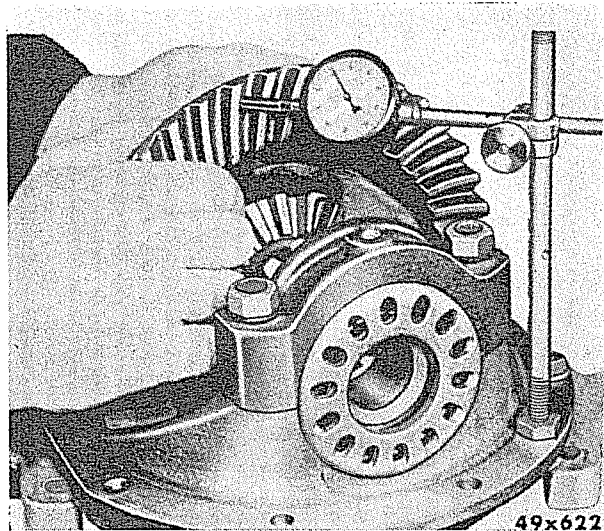

Fig. 15—Checking for Point of Least Backlash.
- (f) Turn ring gear a few times by hand to seat bearing rollers. With a dial gauge, as shown in Figure 15, find the point of least backlash on ring gear at 90° intervals.